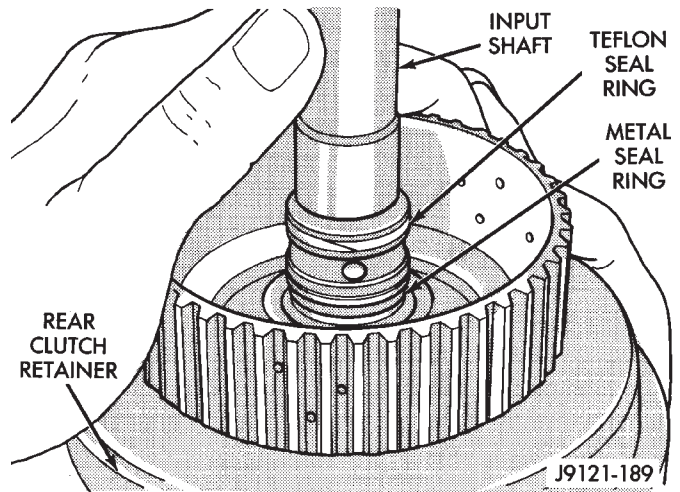

Fig. 147 Input Shaft Seal Ring Location
(2) Check input shaft seal rings (Fig. 147). Verify that diagonal-cut ends of teflon seal ring are properly joined and ends of metal ring are correctly hooked together. Also be sure rings are installed in sequence shown.
(3) Check rear clutch thrust washer. Use additional petroleum jelly to hold washer in place if necessary.